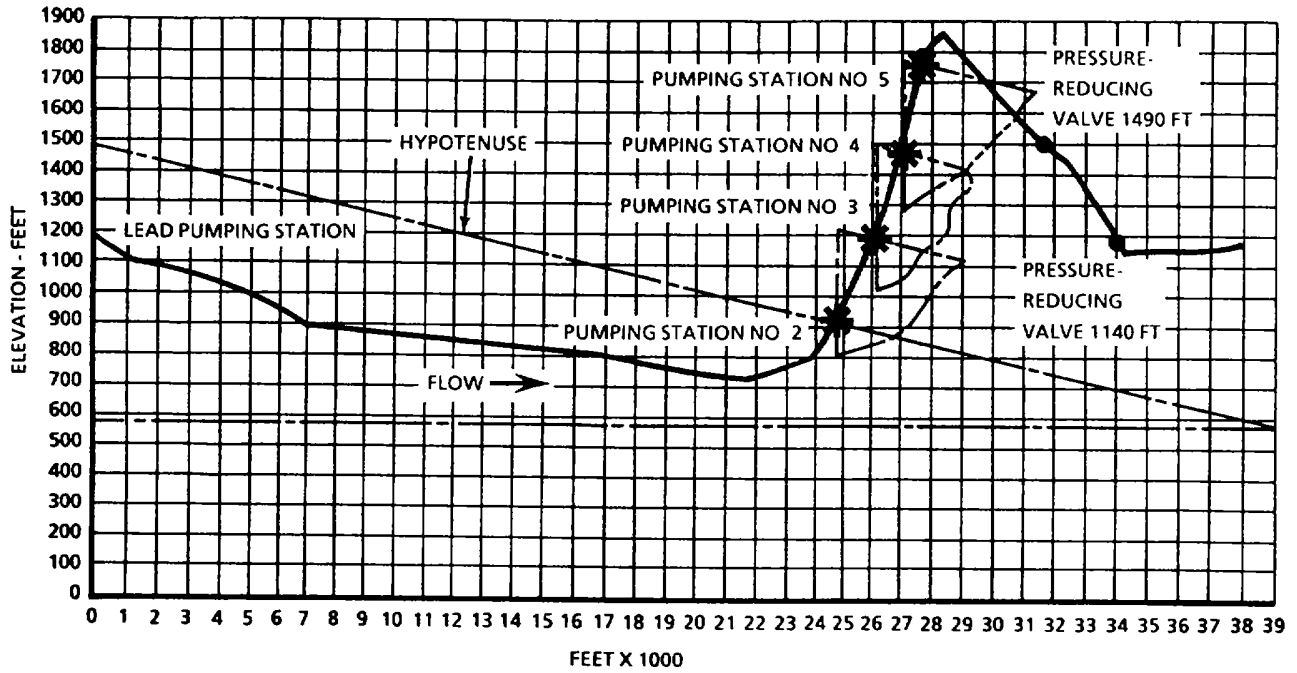

Figure 2-10. Locating Pumping Stations.
- (1) Zero represent the elevation of the pumping station
- (2) The upper left-hand corner represents 300 ft above the pumping station.
- (3) The lower left-hand corner represents 600 ft below the pumping station.
- (9) Using the ground profile and pump spacing triangle, determine the location of the first boost pumping station as follows (refer to figure 2-10).